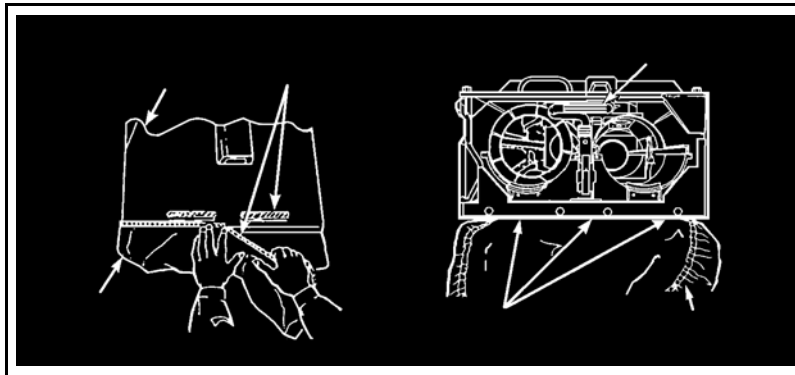

Figure 1. Dust cover.
2. Remove and inspect the dust cover for damage (Figure 1).